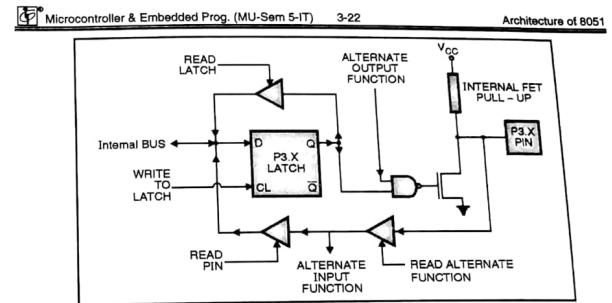

Fig. 3.3.6 : Port 3 circuit
- Fig. 3.3.6 shows port 3 circuit.